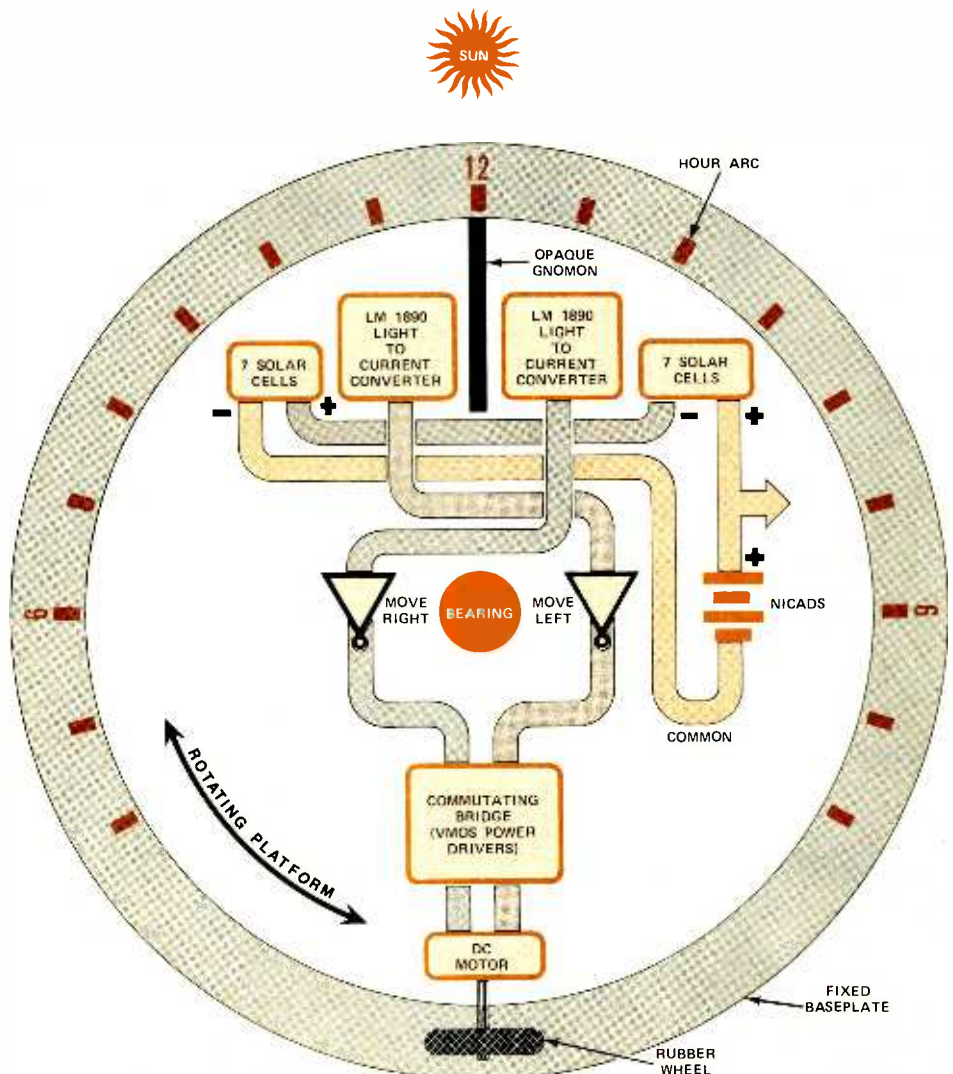

Fig. 1. Diagram showing general operation of solid-state sundial. The servo loop keeps the gnomon (shadow caster) pointed at the sun.
**How It Works.** As shown in Fig. 1, the opaque gnomon is placed between a pair of light-to-current converters so that if the gnomon is not pointing directly at the sun, one of the light detectors is shielded and the other receives more of the sun's light.
Operation of the system shown in Fig. 1 is such that the motor-driven rotating platform is kept aligned and each light-to-current converter receives equal amounts of illumination. Thus, the gnomon will track the sun and can be used to indicate the passing hours on an arc scribed on the fixed baseplate.